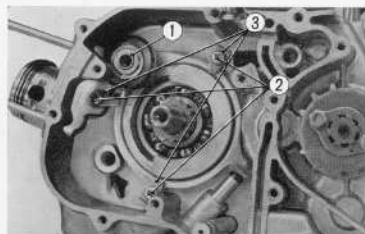

Fig. 3.60 Removing the cam chain tensioner
4. Remove the cam chain tensioner ① by removing the three 5 mm screws ② attaching the cam chain tensioner setting plate ③ to the tensioner. (Fig. 3.60)